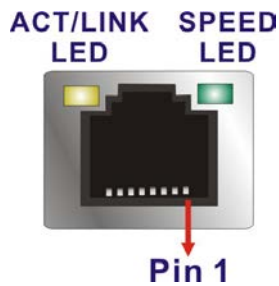

Figure 3-28: LAN Connector
- CN Pinouts:** See **Figure 3-28** and **Table 3-27**